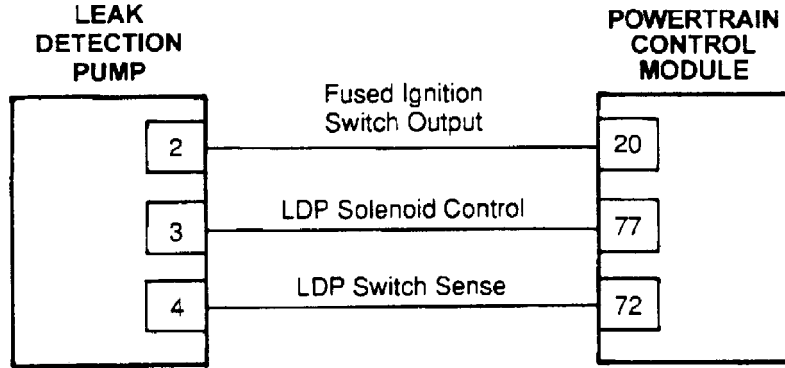

Figure C064-3 Typical leak detection pump solenoid circuit for 1996–2002 car and minivan
- Figure C064-3 Typical leak detection pump solenoid circuit for 1996–2002 car and minivan